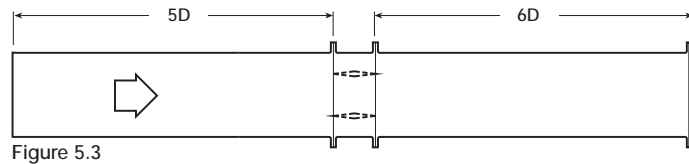

Figure 5.3
**Figure 5.3** Illustrates a fully ducted damper. This configuration has the lowest pressure drop of the three test configurations because entrance and exit losses are minimized by straight duct runs upstream and downstream of the damper.
**Example:** Calculate the pressure drop of a 24" x 24" damper in a fully ducted configuration (fig 5.3) that sees a face velocity of 1500 fpm.
Using the pressure loss coefficient table corresponding to AMCA fig 5.3 it can be seen that the  $C_o$  value for a 24" x 24" damper is 0.65. Substituting  $C_o$  and the velocity into equation 1: